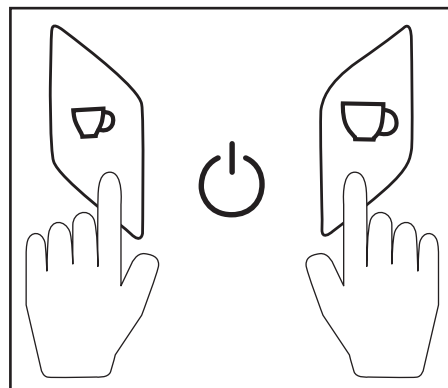

Fig. 1
- Press the Espresso  **2** and Lungo  **4** button at the same time (see Fig. 1). The buttons go dark and the appliance switches itself off.